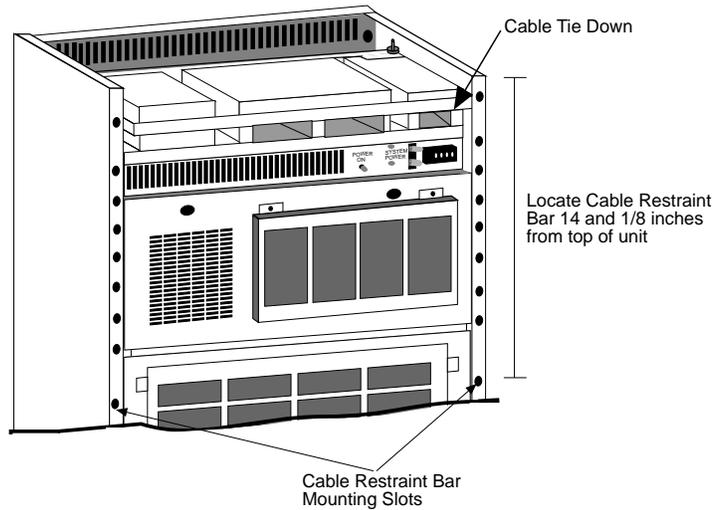

Figure 2-3. Installing the Cable Restraint Bar
11. Install the cable restraint bar on the rear of the unit, using two #10 screws in the bottom-most mounting holes (Figure 2-3).